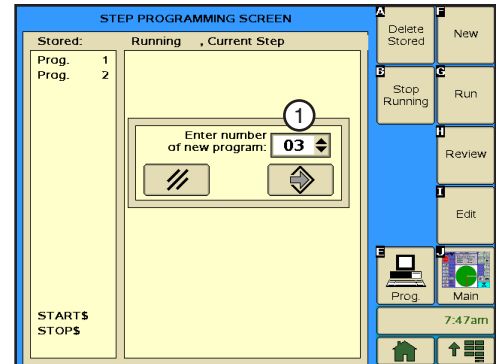

Figure 157-2 1. New Program Number Field
1. Push **Prog.** and **Step Prog.** to view the Step Program screen. Refer to Figure 157-2.